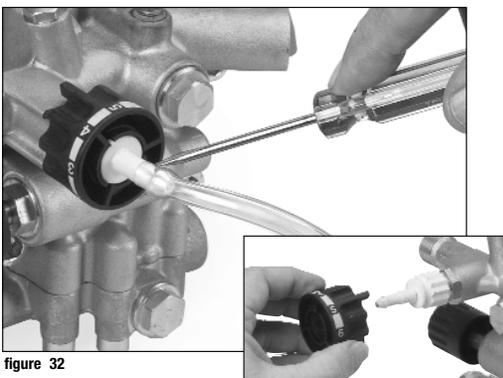

figure 32
- Remove detergent tube. (figure 32)